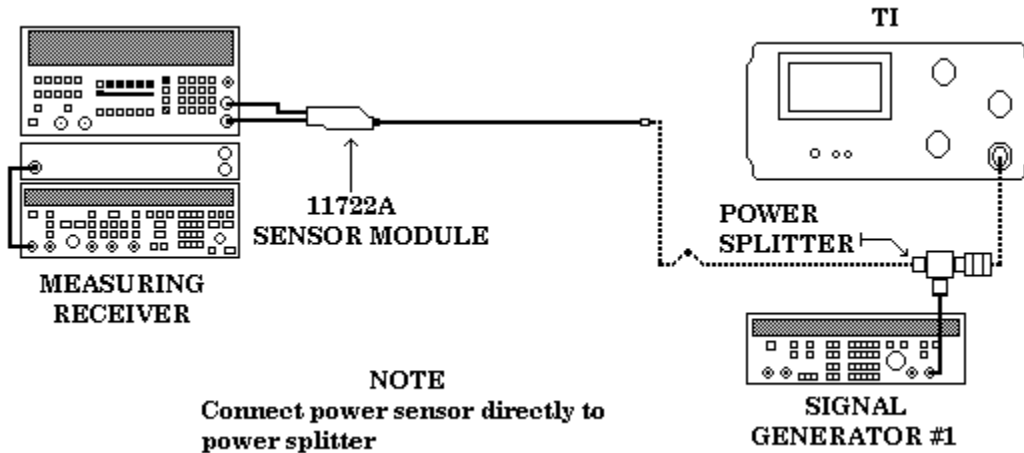

Figure 8. Frequency response setup
- (9) Reduce synthesizer/level generator output to minimum and disconnect synthesizer/level generator **OUTPUT 50Ω** from TI **RF INPUT 50Ω**.
- (10) Connect 11722A sensor module to measuring receiver **RF POWER OUTPUT**.
- (11) Zero and calibrate sensor module.
- (12) Connect equipment as shown in figure 8 below.